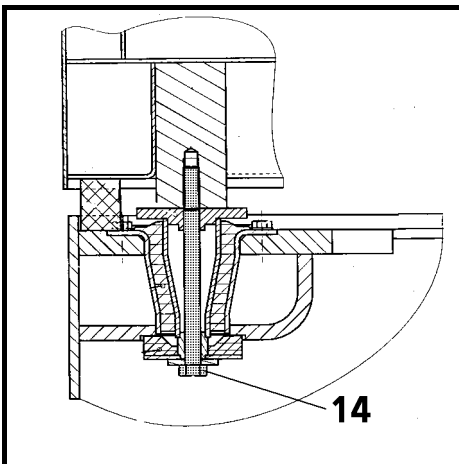

Fig. 54
This screw (Fig. 54, pos. 14) are of size M16 and must be torqued to 310 Nm (230 ft.lbs).